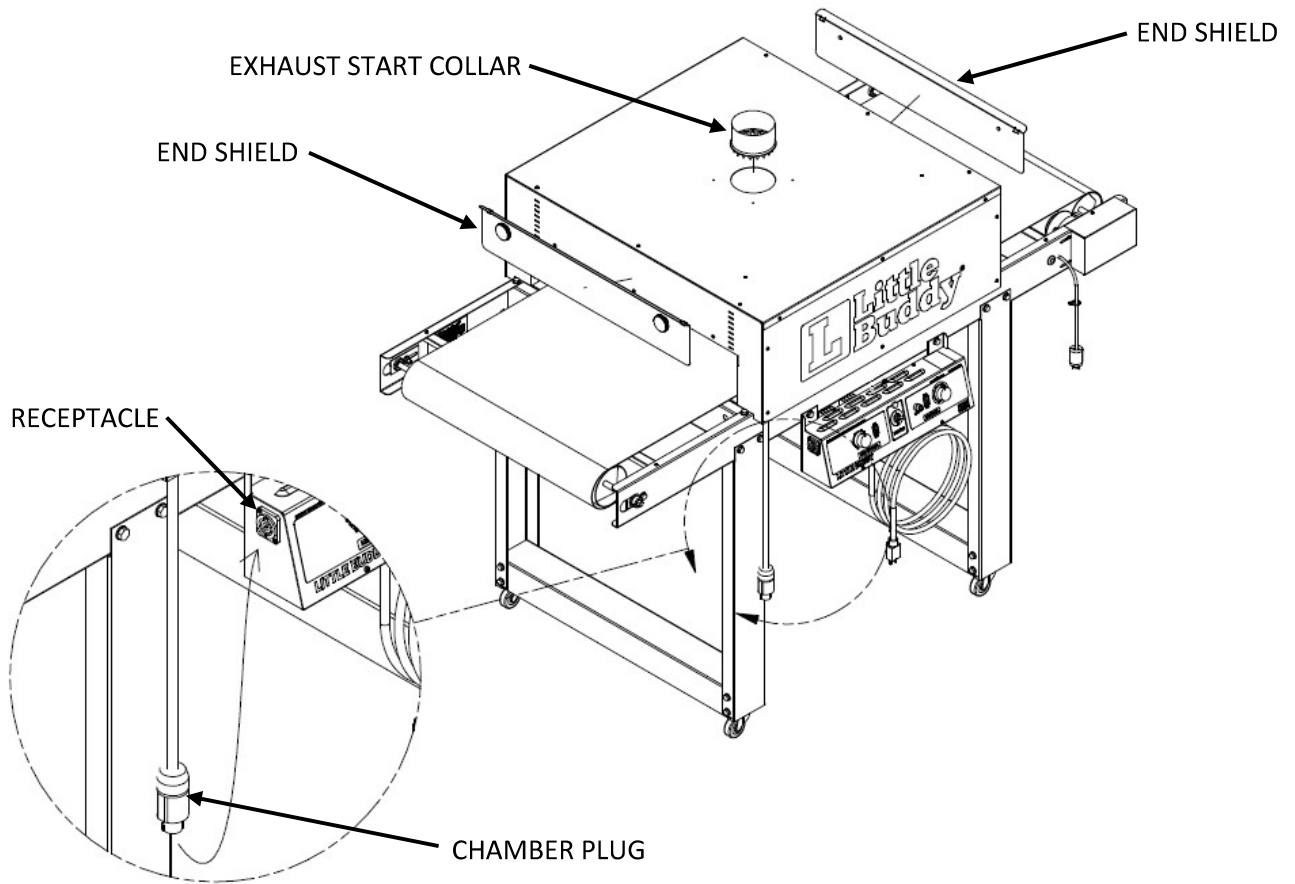

Figure 8
3. Insert the **EXHAUST START COLLAR** into the hole in the top of the **HEATING CHAMBER** (see **Figure 8**). Once in position, bend the tabs at the base of the **COLLAR** outward to secure it in place. Optional Exhaust Kit (LB02-EX) available.
5. Plug the **HEATING CHAMBER CORD** into the **RECEPTACLE** on the **CONTROL PANEL** (see Magnified View, **Figure 8**).